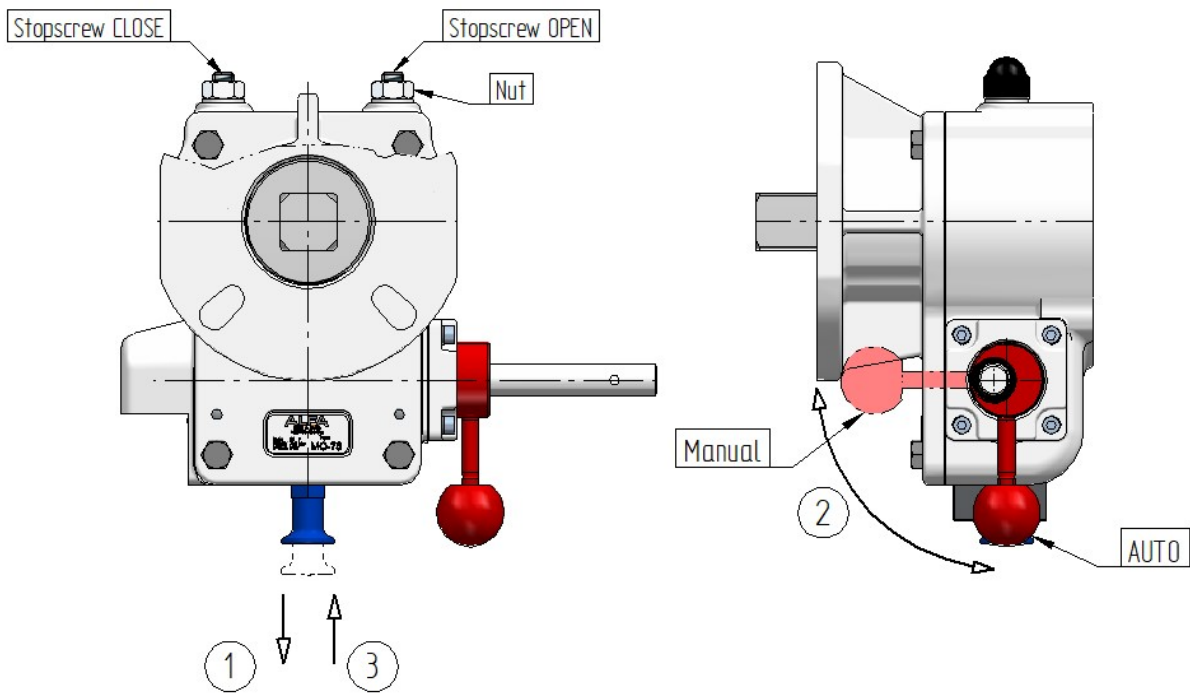

Figure 6: MO SERIES gearbox stop screw adjustment
10. The 3/2-valve is optional and meant for gearbox mode detection. The 3/2 vent valve is open (and vents to atmosphere) with the gearbox in manual mode. Figure 6
2. Put the gearbox in the manual-mode by turning the handle 90 degrees clockwise (see 'operating' and/or figure 6: 1 (pull the nob) → 2 turn the selector → 3 loose the nob and make sure it is released in.
When the fully closed position can not be achieved, loosen the stopscrew-close (see figure 6) Continue turning the handwheel until the valve is fully closed.
5. Open the valve by turning the handwheel counter-clockwise. When the fully open position can not be achieved, loosen the stopscrew-open (see figure 6). Continue turning the handwheel until the valve is fully open.
8. Pull the knob outwards (3) and turn the handle (counter clockwise) until knob falls back into its locked-position (2).